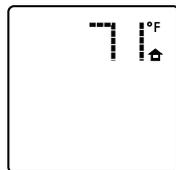

Figure 25 - Remote Display
1. Remove battery housing cover from back of hand-held remote (See Figure 25).
When batteries are installed, the "little house" icon with current room temperature will be displayed (see Figure 25). This icon will always show in the control window as long as the batteries have power.